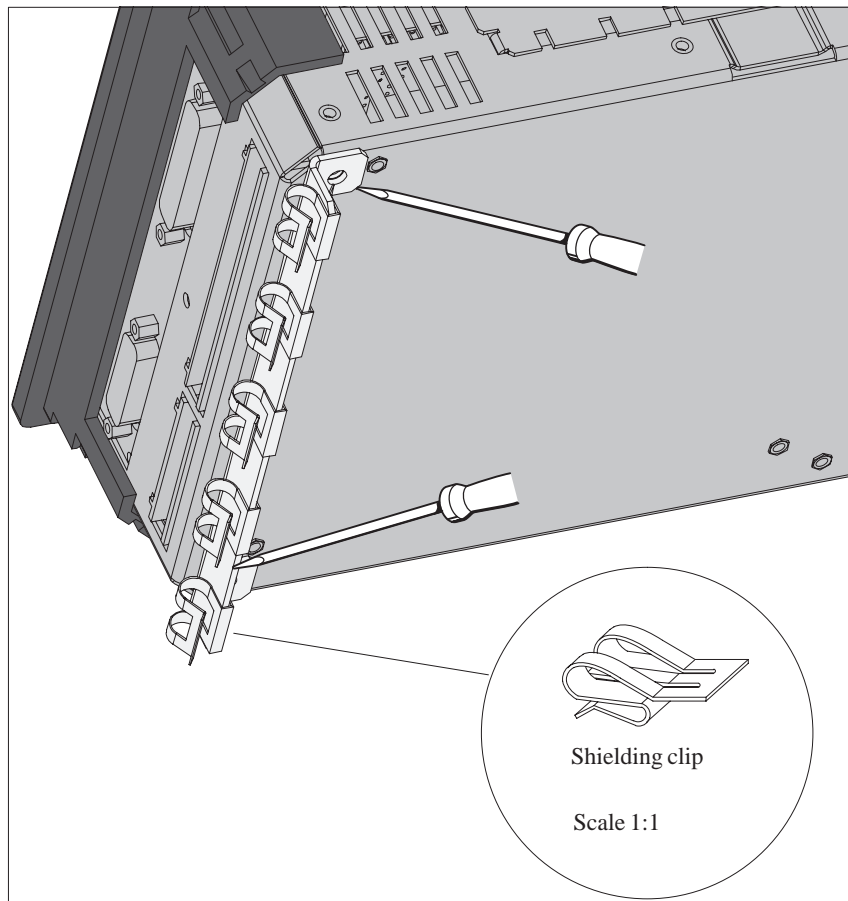

Figure 2-16 C7-633 P with Grounding Bar and Shielding Clips
1. Position the grounding bar as shown in Figure 2-16 and fix this in place with the screw you removed earlier.
2. Attach the shielding clips to the grounding bar as shown in Figure 2-16.